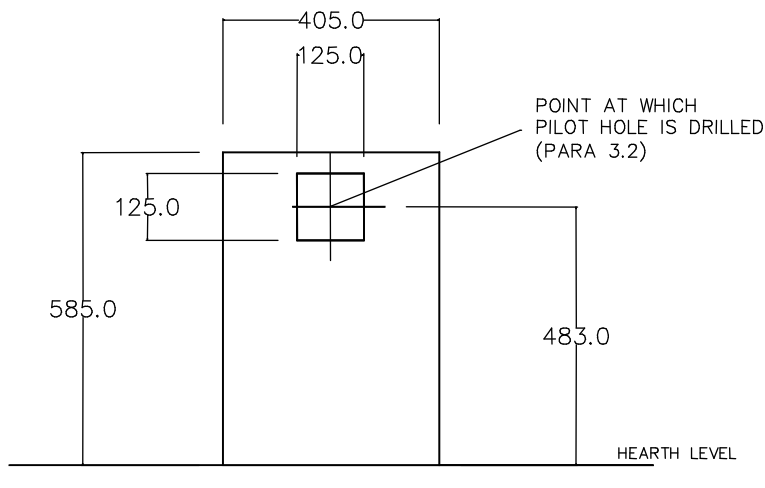

FIGURE 2
- 2 Above the hearth level line, draw a rectangle 405mm (16") wide and 585mm (23") high. Mark a horizontal line 483mm above hearth level and a vertical line on the centreline of the fireplace (See figure 2). At this point drill a pilot hole through the cavity wall to the outside. Cut away the plaster and the inner leaf of the brickwork to expose the outer leaf of the cavity.
- 4 Cut a hole through the cavity wall to accept the flue duct. The centre line for the duct is 483mm (19") above HEARTH level and the hole should measure 125mm x 125mm (See Figure 2)